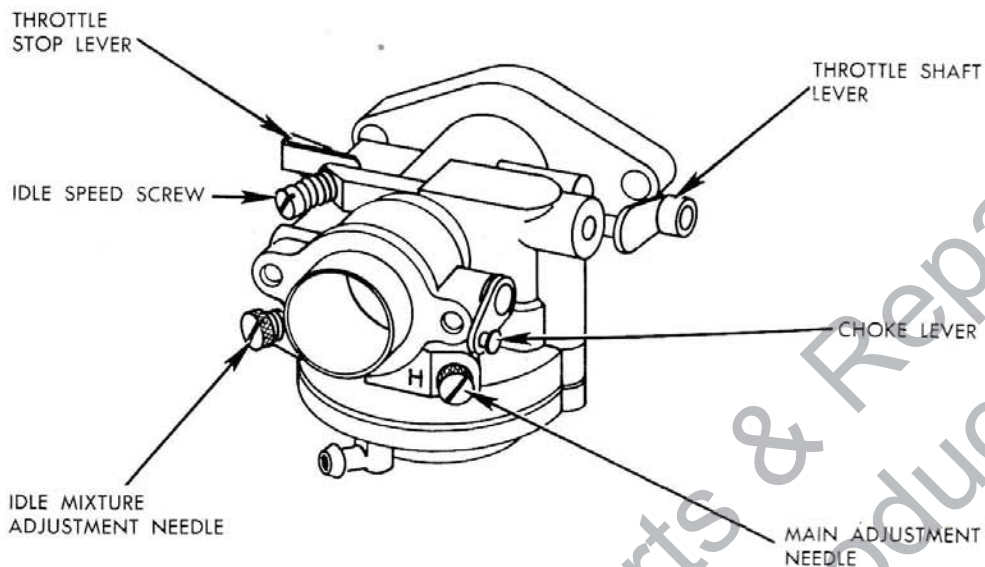

Figure 12—Carburetor Adjustments
f. Carburetor Adjustment (See Figure 12)
(1) Adjust carburetor only after checking air filter, fuel filter, muffler and relief valve in fuel cap. Carburetor adjustment cannot satisfactorily overcome restrictions of fuel or air occurring elsewhere in the system.
(2) Always begin carburetor adjustment by making the following approximate settings: